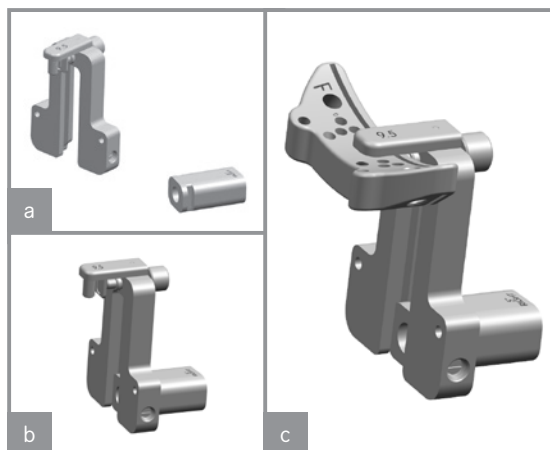

Figure 2
3. Slide the IM T-Handle rod through the valgus bushing and in to the femoral canal until the assembled valgus alignment guide touches at least one of the distal femoral condyles (Figure 2).